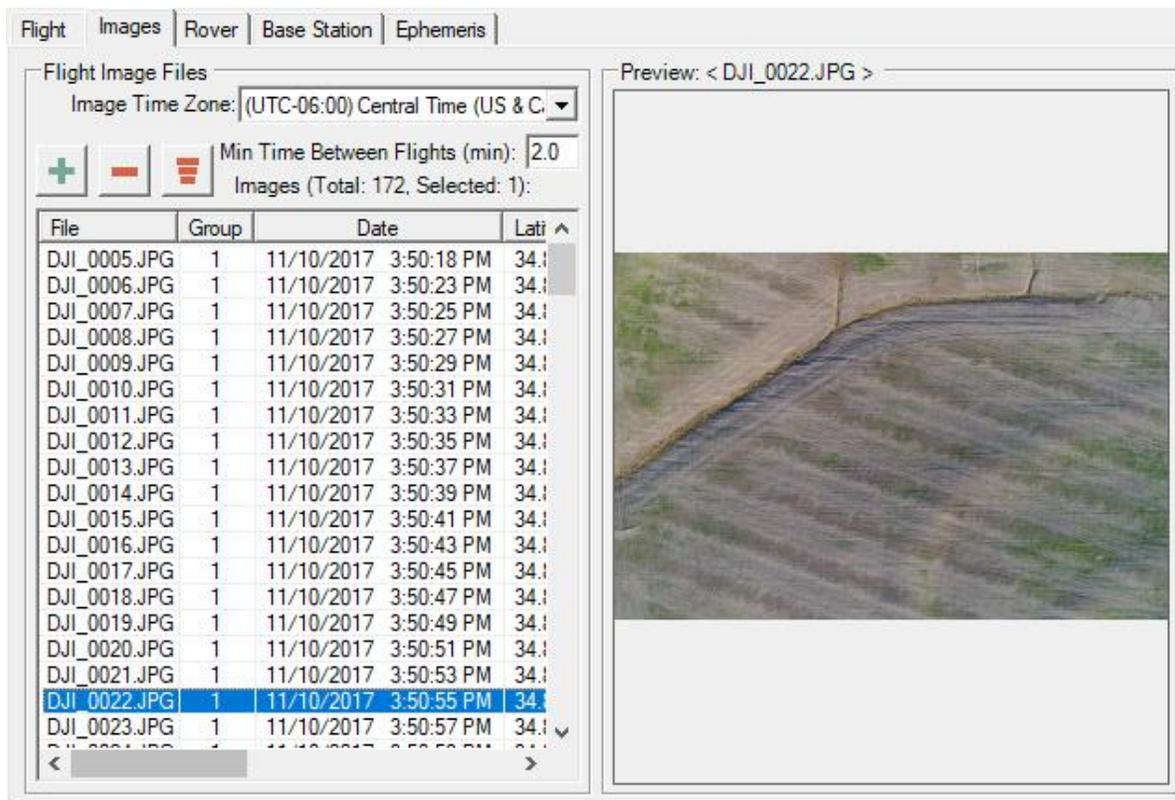

Figure 37 – Flight Image Files with Preview Window
12. The images were imported in the field, so you should not have to add them here. You should see the correct image in the *Image Files* window (Figure 37 – Flight Image).